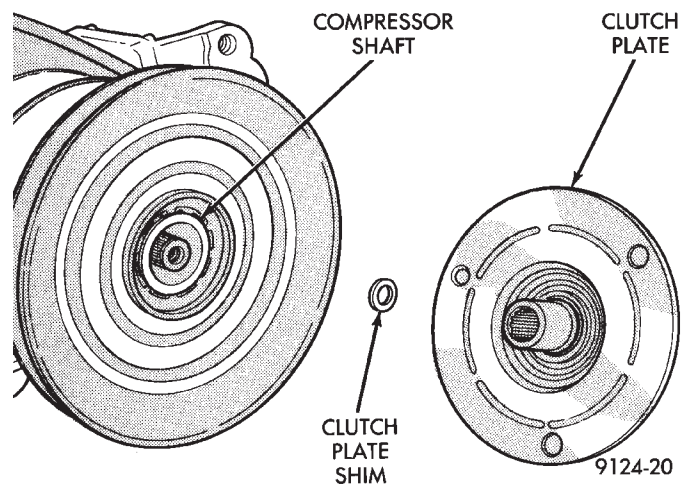

Fig. 32 Clutch Plate and Shim
(4) Tap the clutch plate with a plastic mallet to release it from the splines on the compressor shaft. Remove the clutch plate and shim(s) from the compressor shaft (Fig. 32).